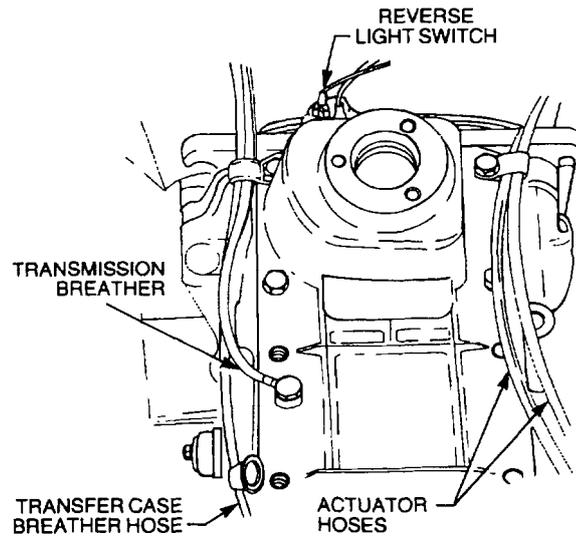

Figure 46 Hose Clamps Removal
- Remove the push-on connectors from the reverse light switch located on the top of the transmission (Figure 46).
- j. Remove the clamps securing the breather and actuator hoses to the transmission (Figure 46).
- ii.** Connect the transmission breather hose to the top of the transmission. Secure the breather hose and the actuator hose in position with the respective clamps (Figure 46).
- jj.** Install the push-on electrical connectors on the reverse light switch located on top of the transmission (Figure 46).
- (1)** the transfer case selector lever,
- (2)** the top cover, and
- (3)** the gear lever.